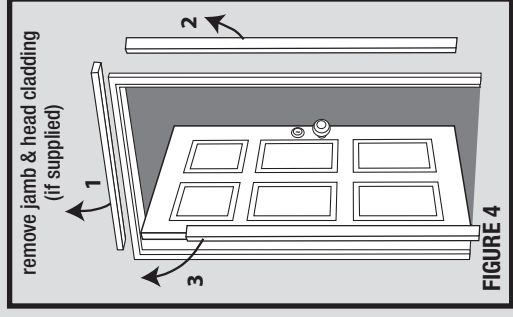

FIGURE 4
- 3.2.1. Remove jamb cladding. (figure 4)